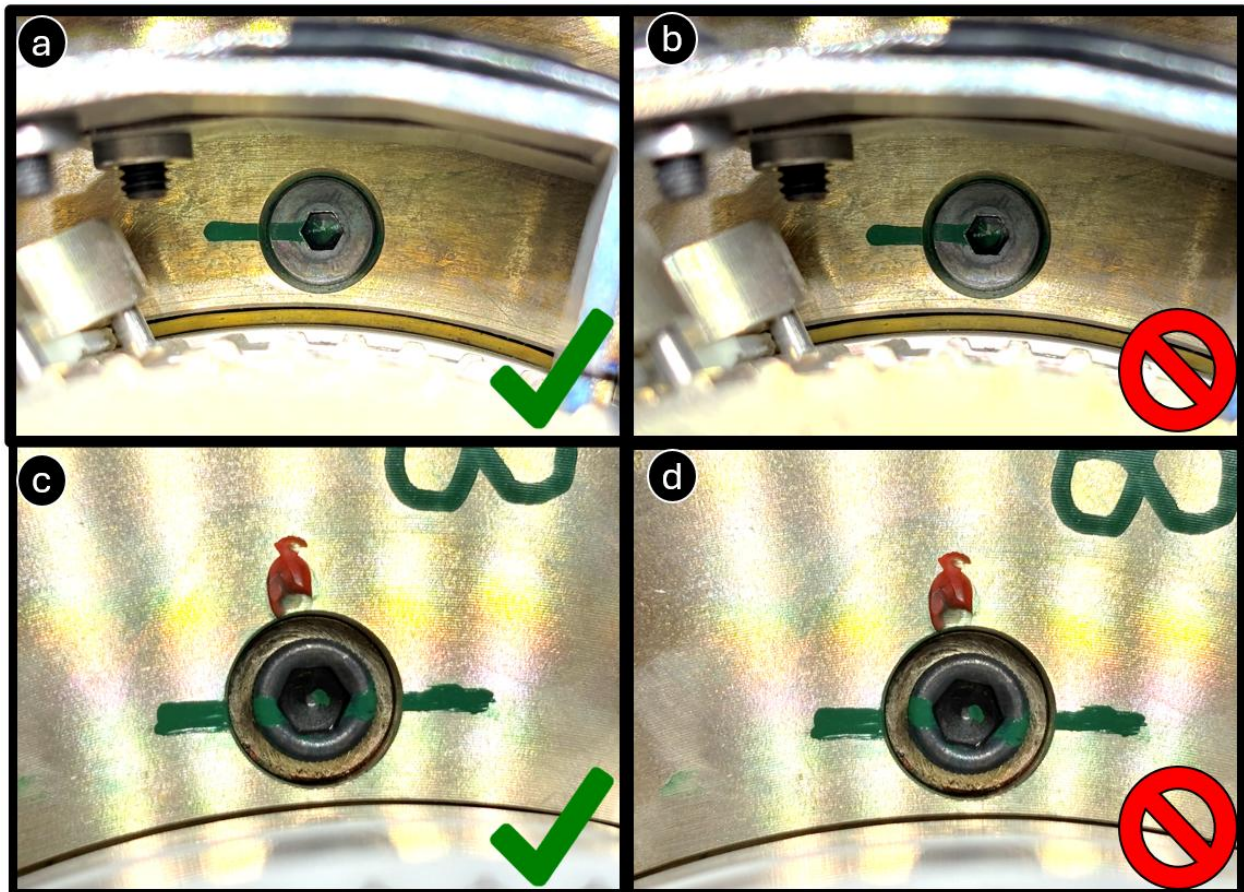

Figure 7 - Examples of No Rotation (a) & (c) and rotation (b) & (d) post torque inspection
10. Inspect the torqued hardware closely to determine if the alignment mark on the screw head rotated relative to the bronze gear as shown in Figure 7.